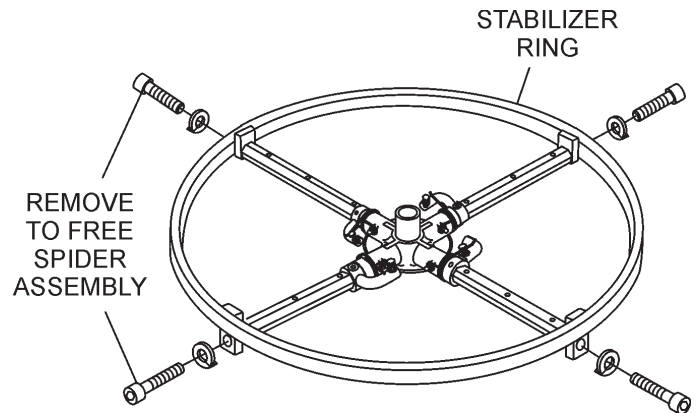

Figure 36. Stabilizer Ring
- c. If the trowel is equipped with an outer stabilizer ring (Figure 36), remove the four bolts at the end of each spider arm.